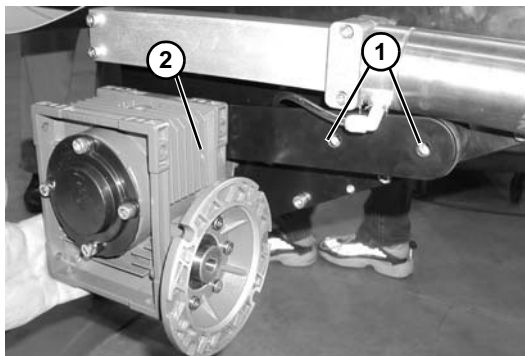

Figure 125
2. Remove screws (**Figure 125, item 1**) and remove gearmotor (**Figure 125, item 2**) (gearhead shown with motor removed for clarity, motor can remain attached to gearhead).